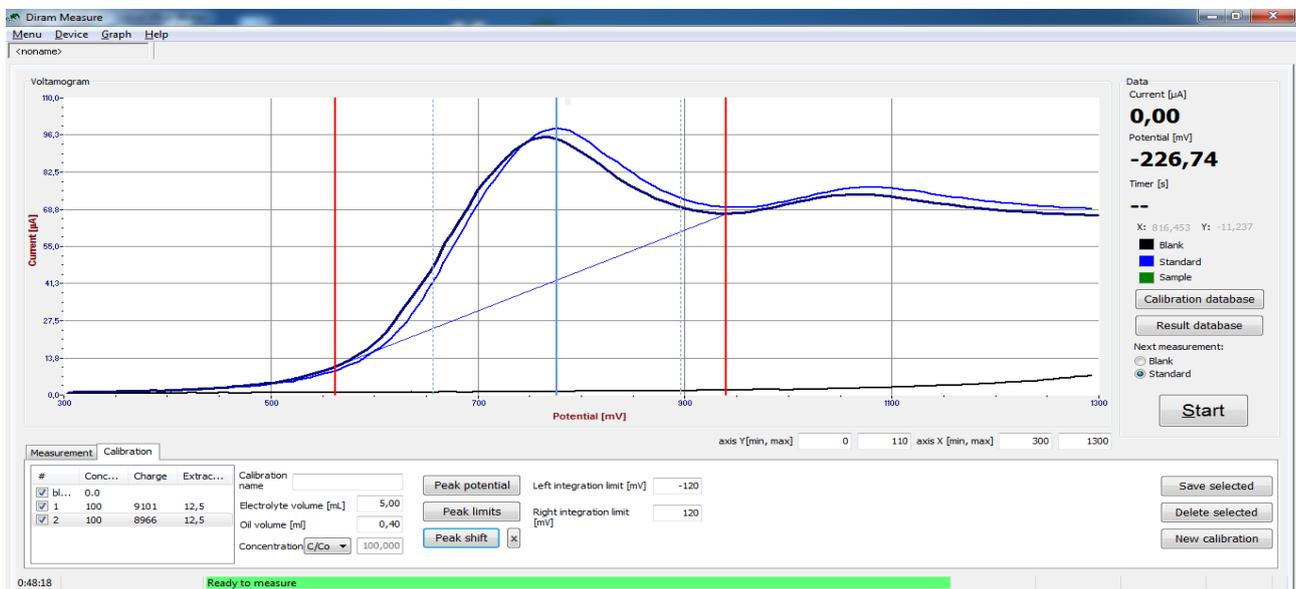

Figure 8: Second **Standard** measurement.
- Wipe the electrode. Measure **Standard** for the second time. The result is another blue curve with maximum slightly shifted with respect to the preceding curve (**Fig. 8**).